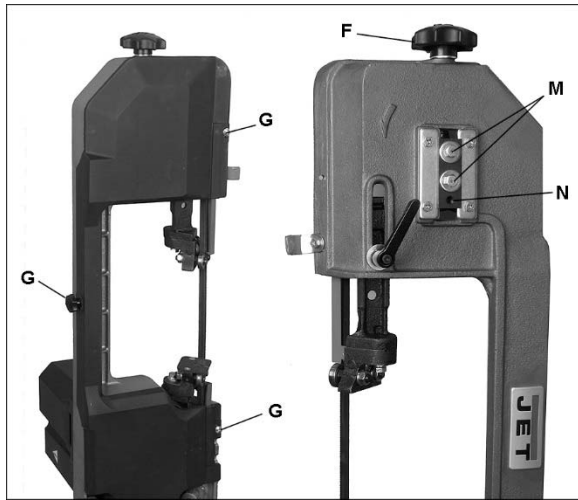

Figure 7-5
4. Loosen bolts (M, Figure 7-5) with 12mm wrench.
5. Turn set screw (N) with 4mm hex wrench, while observing blade tracking on wheel. Turn set screw clockwise to track closer to wheel flange. Turn set screw counterclockwise to track away from wheel flange.